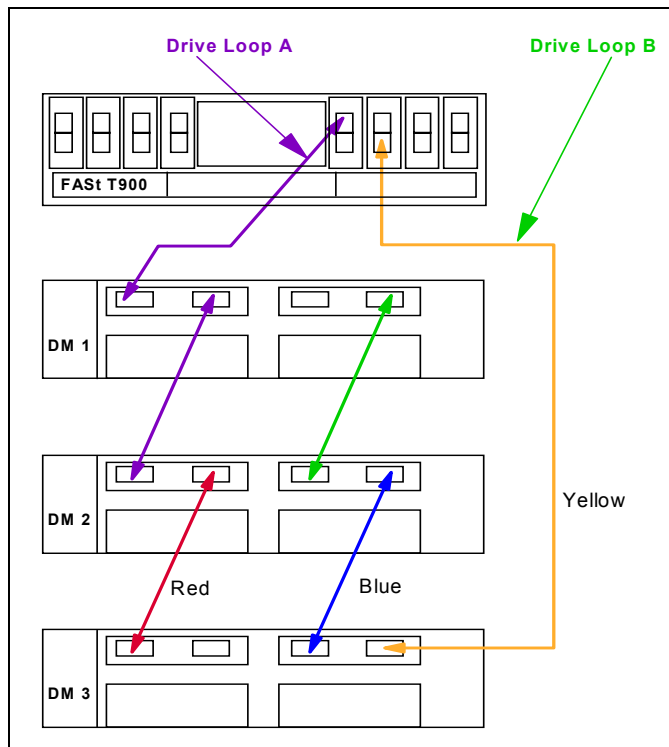

Figure 2-14 Capacity scaling
1. First, add drive module (DM) DM3 on drive loop A by connecting a new cable (colored red in Figure 2-14).